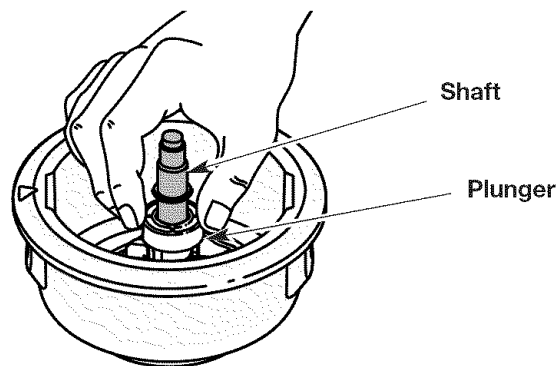

Fig. 23
- Clean the shaft and the inner surface of the reel housing. To clean the shaft underneath the plunger, press down on the plunger (Fig. 23). Remove any dirt and/or debris from the shaft.